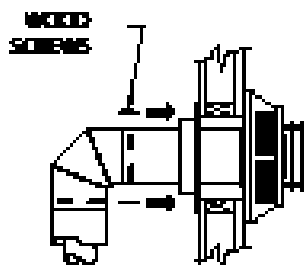

Figure 9
Step 7. Slide the Wall Thimble Cover up to the wall surface and attach to the wall with screws provided (Fig. 9). Apply optional decorative brass trim to Wall Thimble Cover, if desired.